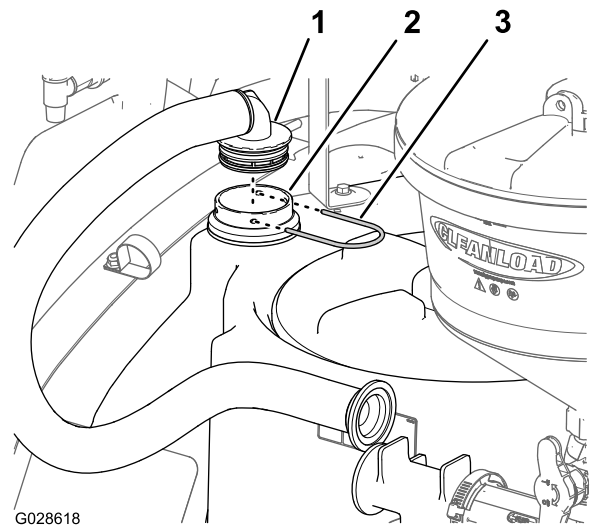

Figure 23
1. Insert the 90° barbed fitting of the tank hose into the bulkhead fitting (Figure 23) that you installed in step 2 of Installing the Bulkhead Fitting (page 11).